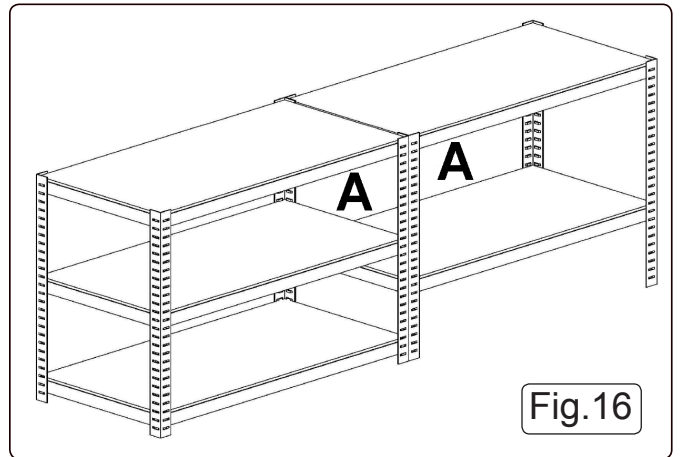

Fig.16
**4.14 See Fig.16.** Place the two units end to end as shown below.